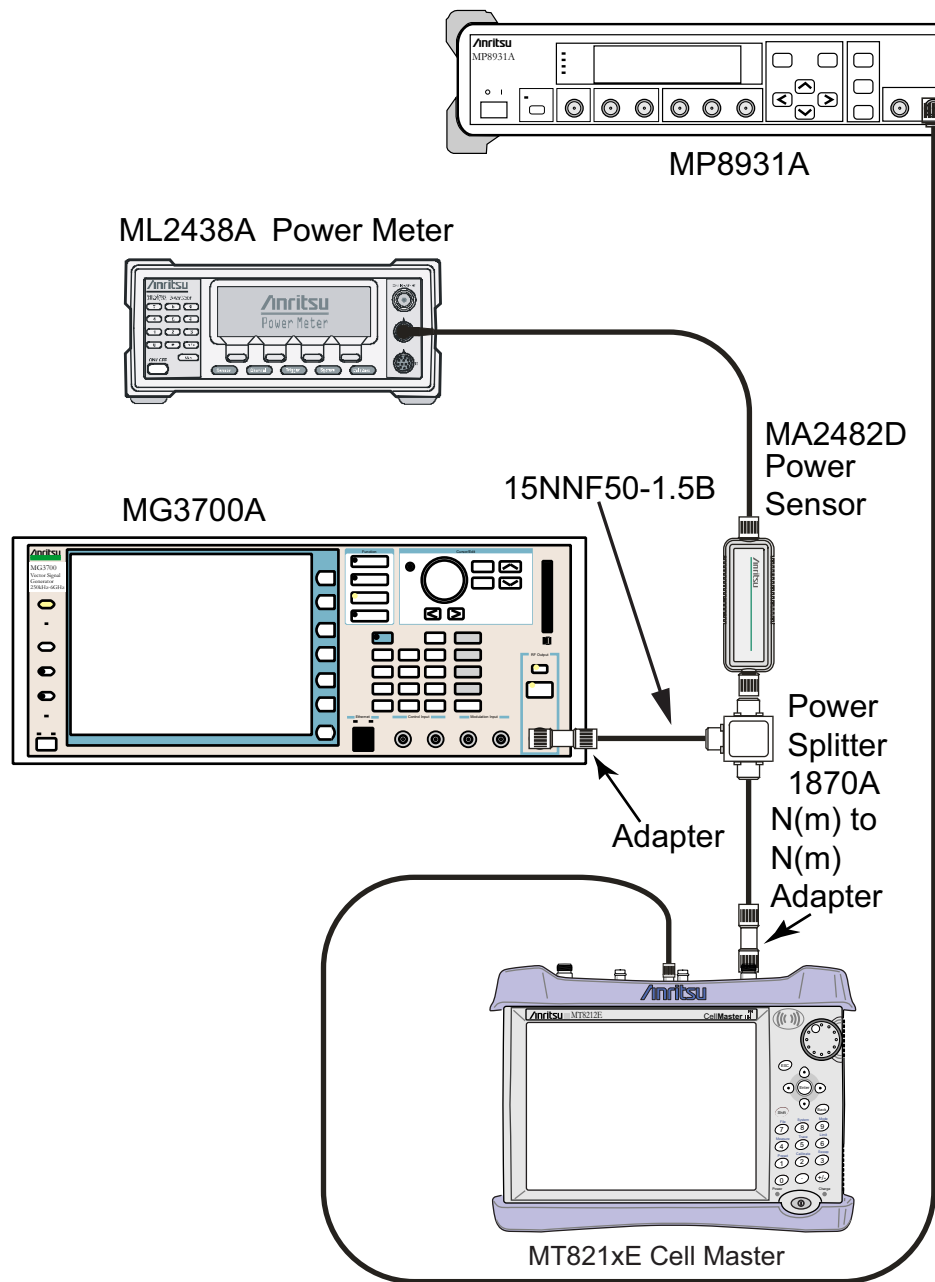

Figure 5-17. DVB-T/H BER, Option 57 – BER Functional Check Setup
3. Connect the MG3700A Signal Generator, Power Splitter, Power Sensor, 34NN50A Adapter, Cell Master, and the MP8931A as shown in Figure 5-17.